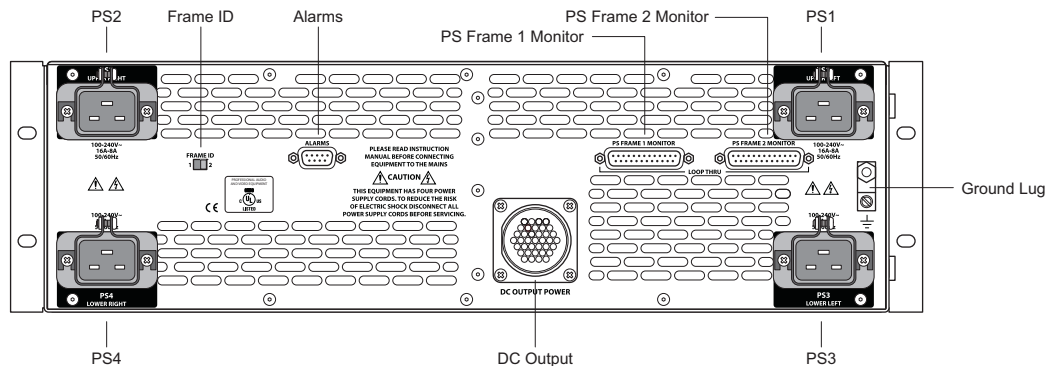

Fig. 8-12: NV8300 Power Supply Frame (Rear View)
- 6 Set the Frame ID switch on the NV8300 power supply frame to 1. See Figure 8-12.
- 8 Facing the rear of the NV8300, connect one end of a WC0154-00 power cable to the **DC Output** connector. (See Figure 8-12 on page 130.)
- 13 Set the Frame ID switch on the NV8300 power supply frame to 2. See Figure 8-12.